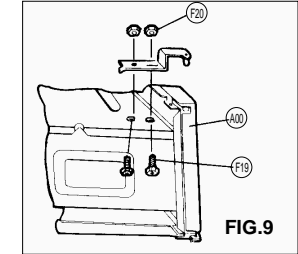

FIG. 9
7. To remove door assembly (Refer to Fig. 9)